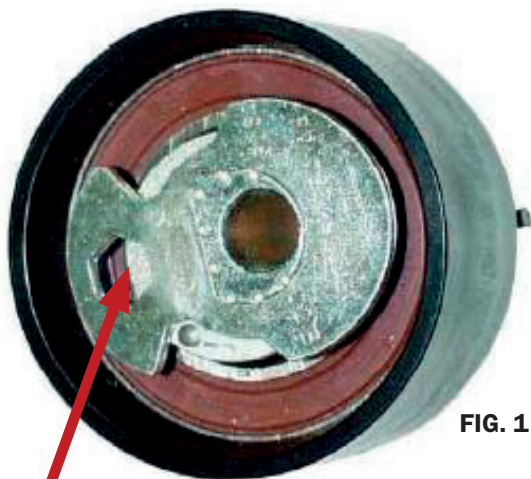

FIG. 1
5. Install the new (automatic) tensioner with its new bolt hand tight (Allen key hole at +/- 9.00 o'clock) (Fig. 1).